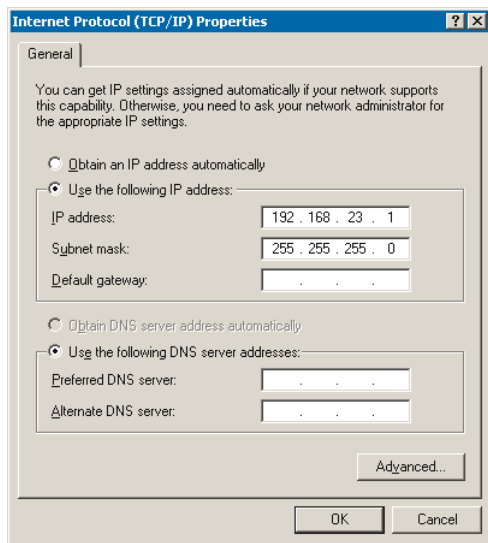

Figure 6.3 Internet Protocol (TCP/IP) Properties
- 4.4. Select the **Internet Protocol (TCP/IP)** item and click the **Properties** button. Another dialog box will appear (see Figure 6.3).